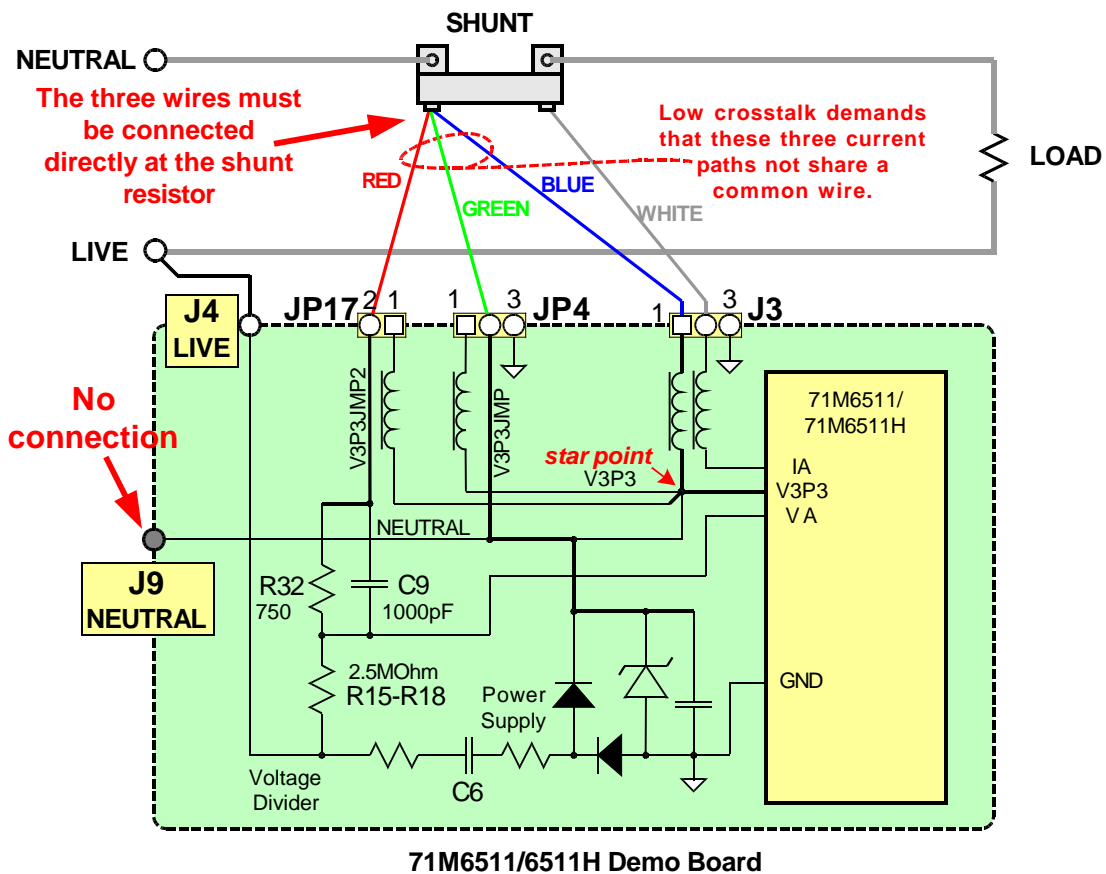
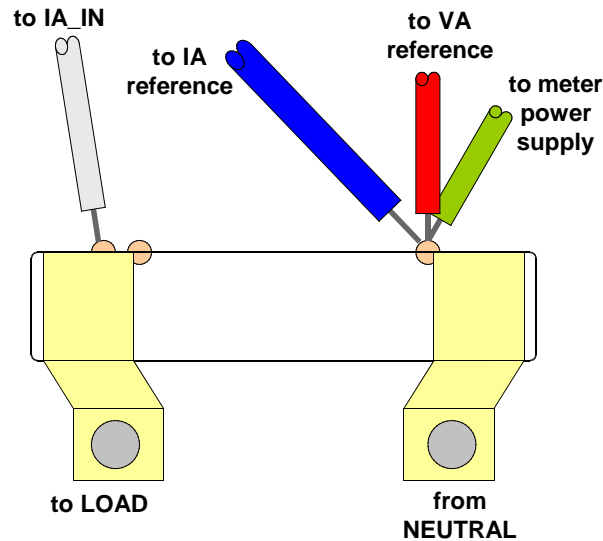

Figure 3: Wiring for Current Shunt Mode (Shown for the 6511T4A7 2-Layer PCB)
Figure 4: Recommended Shunt Connections
Figure 3 shows the general topology of the current shunt sensor operation. The voltage drop across the shunt resistor is fed into the IA input of the 71M6511/6511H device, with V3P3 being the reference. The voltage at the shunt is divided by a resistor divider R1/R2 associated with the voltage input and supplied to the VA input of the chip. The Demo Board generates the power for the 71M6511 chip by attenuating the voltage between NEUTRAL and LIVE through a network consisting of resistors, capacitors and diodes.
Figure 4 shows the connections required at the shunt resistor itself.
**It is important that three separate wires for V3P3 are attached at the shunt resistor as shown in Figure 4 and are routed to the 6511 Demo Board separately, as shown in Figure 3.**
- f. Connect Pin1 of JP4 (pin closest to the regulator output, power supply pin) and pin 2 of JP17 (resistor divider output) together at the shunt, V3P3 terminal as shown in Figure 3.